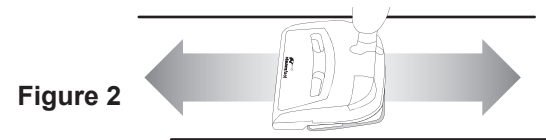

Figure 2
4. For best results, mop using a steady back-and-forth motion over the floor, working your way backwards in order to avoid walking over the freshly mopped area (Figure 2).